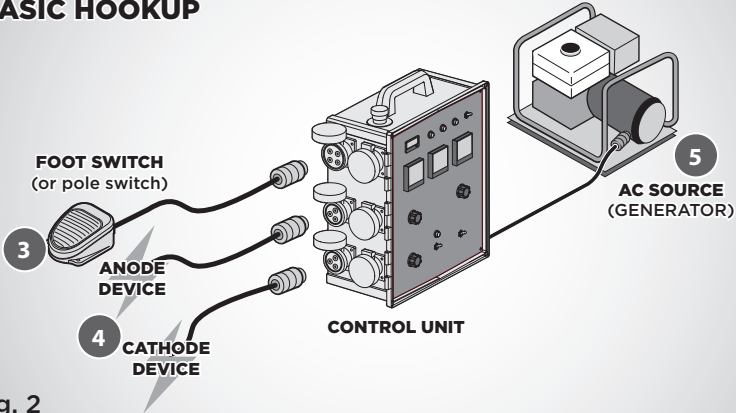

Fig. 2
3. Attach foot switch (or other control device) (Fig. 2, 3).
4. Connect the electrodes to be used to the desired output connector (Fig. 2, 4).
5. Connect the AC INPUT 230 VAC connector to the AC power source (generator) (Fig. 2, 5).